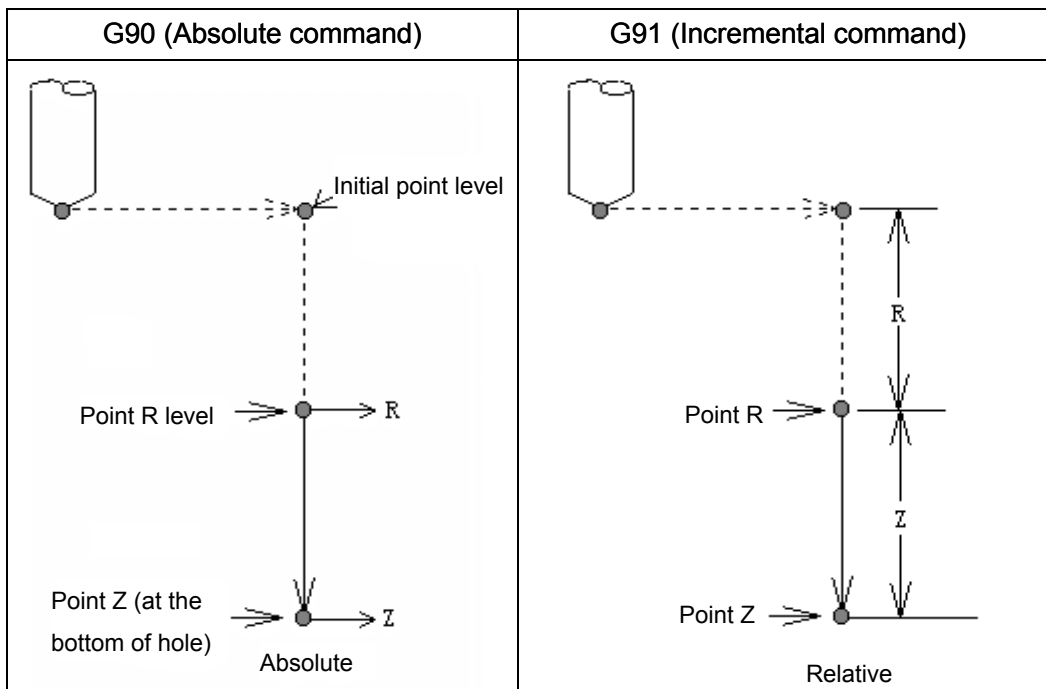

Fig. 13.1 (B) Absolute and incremental commands for canned cycle
The data mode corresponded with G90 and G91 are different. The point R level and the absolute position machined at the bottom of the hole are specified by R and Z values, when the command is G 90. The specified R value is the distance relative to the initial plane, and the Z value is the distance relative to the R point plane when the command is G91. See the Fig. 13.1 (B)